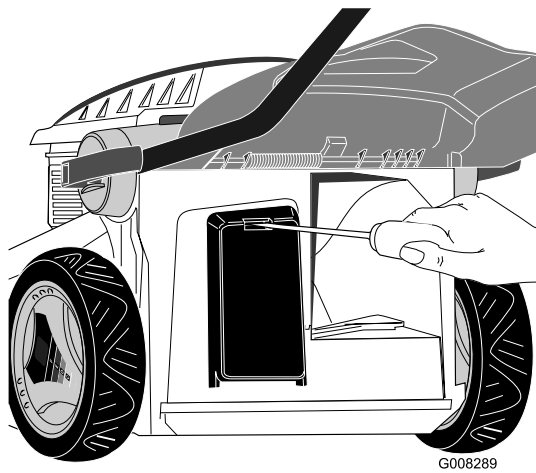

Figure 25
1. Open the cover to the battery compartment (Figure 25).